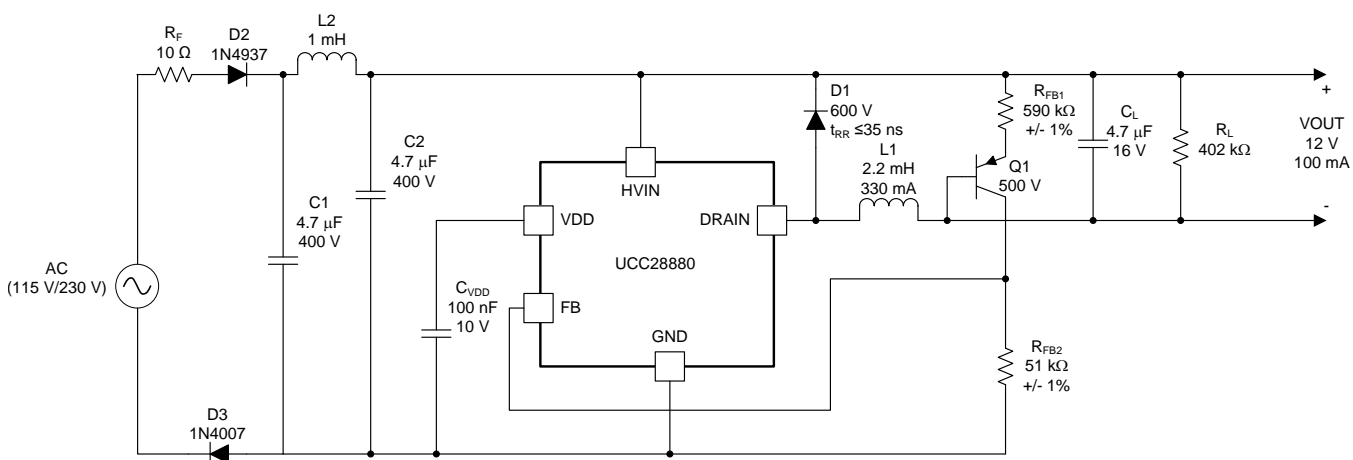

Figure 16. Universal Input, 12-V, 100-mA Output Low-Side Buck
Figure 16 shows a typical application example of a non-isolated power supply, where the UCC28880 is connected in a low-side buck configuration having an output voltage that is negative with respect to the positive input voltage (VIN+). The output voltage is set to 12 V in this example, but can easily be changed by changing the value of RFB1. This application can be used for a wide variety of household appliances and automation, or any other applications where mains isolation is not required.
- $C_{BULK(min)}$ is minimum value for the total input capacitor value (C1 + C2 in the schematic of Figure 16).